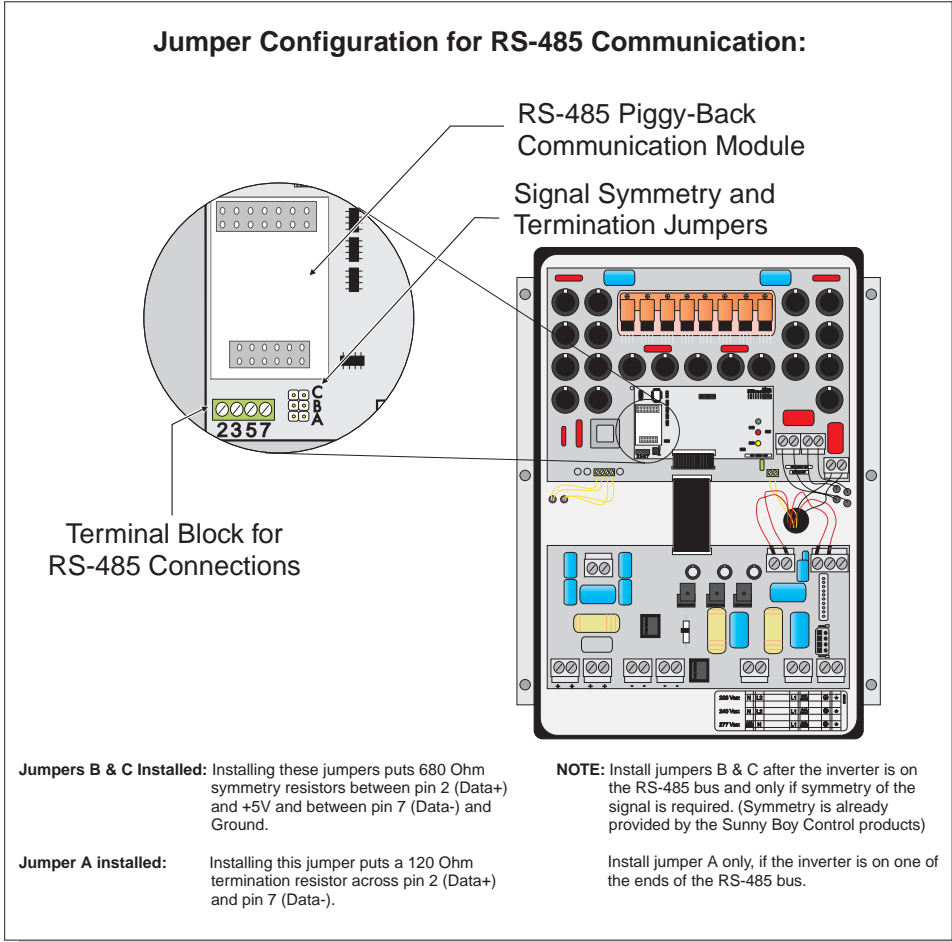

Figure 5-10 Detail of RS-485 Termination and Jumper Settings
1. Connect the three wires of the RS-485 cable to terminals 2, 5, and 7 of the communication terminal block as shown in Figure 5-10. Record the wire color used for each of the terminals.